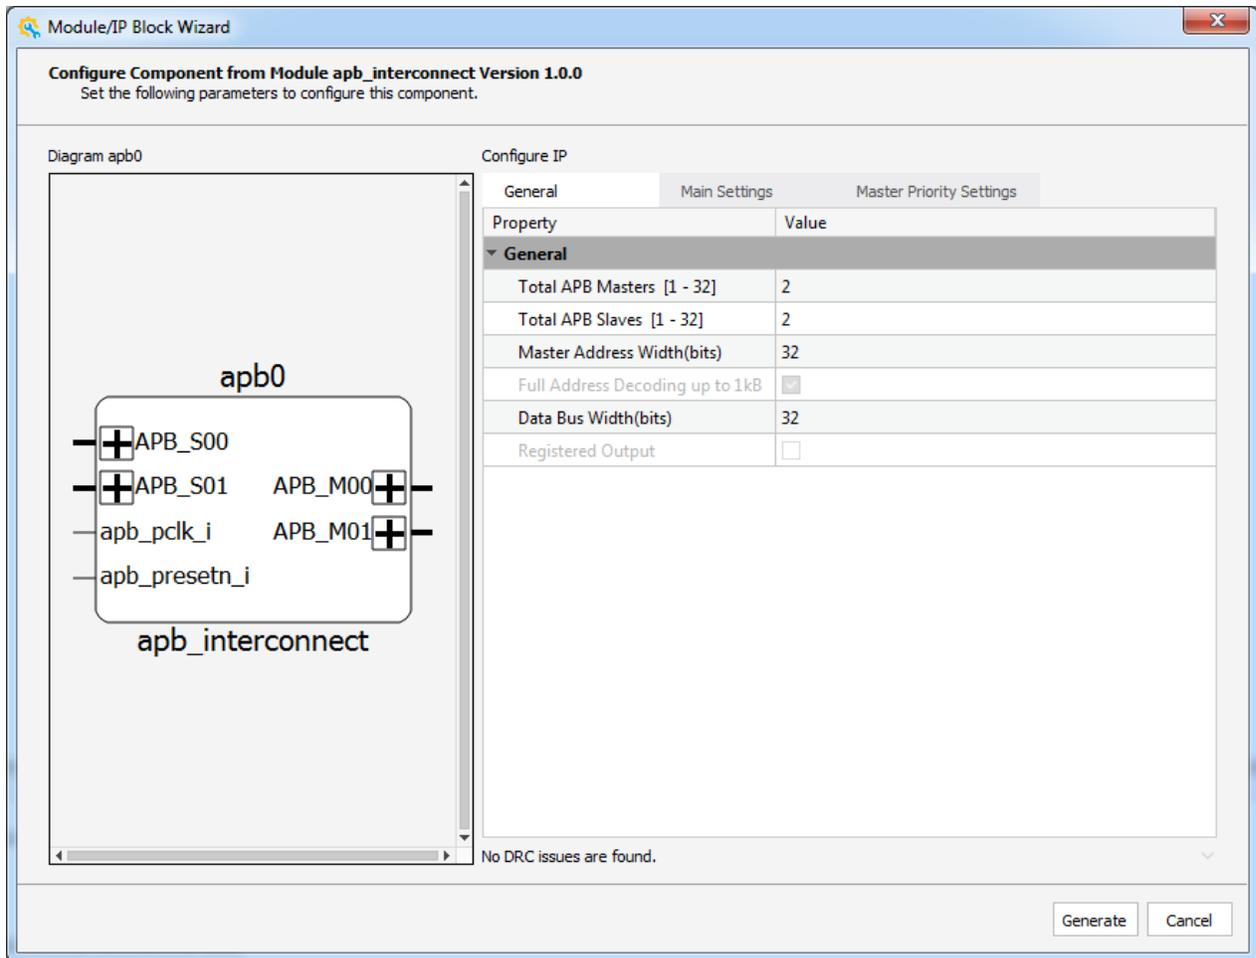

Figure 2.26. Module/IP Block Wizard – Configure Component
- a. Double-click the module, or right-click the module. Choose **Reconfig**. The Module/IP Block wizard (Figure 2.26) opens.